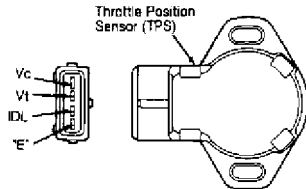

Fig. 12: TP Sensor Connector Terminal ID (Miata A/T, MX-3 1.6L A/T & 1.8L, Protege A/T, 323 A/T, MX-6 2.5L & 626 2.5L)
1) Disconnect TP sensor connector. Connect ohmmeter between TP sensor connector terminals "E" and IDL. See Fig. 12. Insert feeler gauge of specified thickness between throttle lever and throttle stop screw. See TP SENSOR CONTINUITY (MIATA A/T, MX-3 1.6L A/T & 1.8L, PROTEGE A/T, 323 A/T, MX-6 2.5L & 626 2.5L) table.
1) Disconnect TP sensor connector. Connect ohmmeter between TP sensor connector terminals "E" and IDL. See Fig. 12. Loosen TP sensor attaching screws.